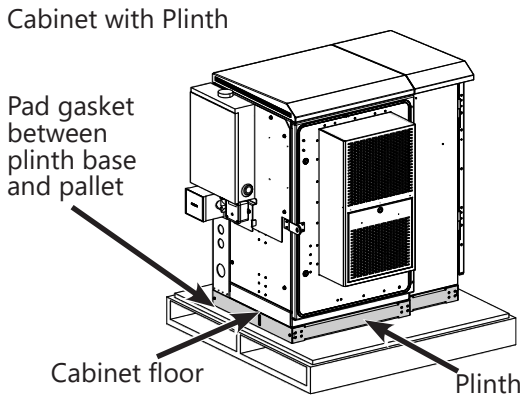

Figure 16. Pad Gasket Removal from Pallet
1. Open the door and rear panel to locate and remove pallet bolts (six places) from front and rear corners on cabinet floor or base of plinth; Figure 16.
- Pad gasket is between the cabinet floor or base of plinth on pallet. Use pad gasket as a template to drill anchor holes into the concrete; Figure 16 & Figure 18.